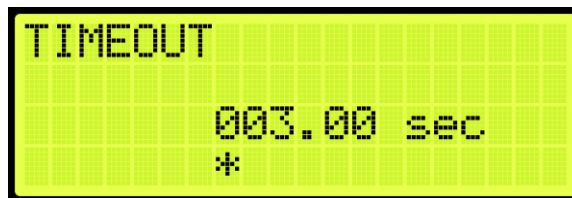

Figure 511: TIMEOUT Menu
4. From the TIMEOUT menu, set the time of the threshold (See Figure 511).